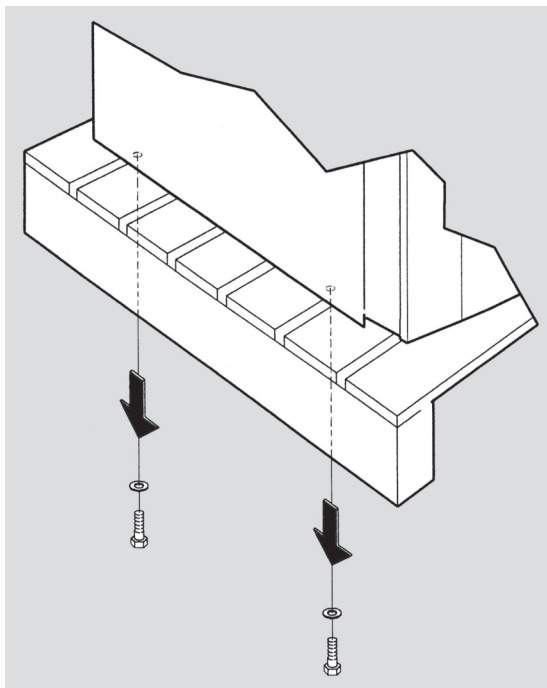

fig.11
- Remove the vending machine from the transport pallet. Unloose its fastening screws (fig. 11).